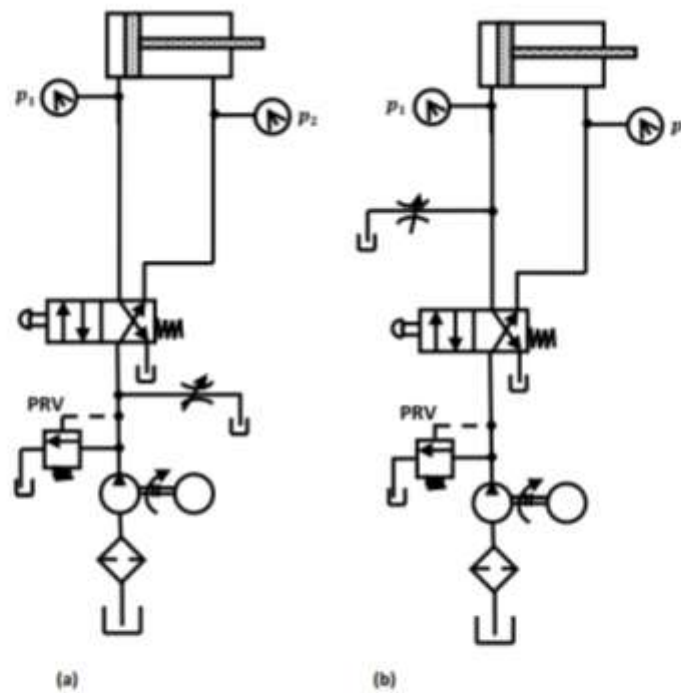

Figure 1.10 Bleed-off circuits:(a) Bleed-off for both directions and (b) bleed-off for inlet to the cylinder or motor.
Three-way valves either block or allow flow from an inlet to an outlet. They also allow the outlet to flow back to the tank when the pump is blocked, while a two-way valve does not. A three-way valve has three ports, namely, a pressure inlet (P), an outlet to the system(A) and a return to the tank(T). Figure 1.10 shows the operation of a 3/2-way valve normally closed. In its normal position, the valve is held in position by a spring as shown in Fig. 1.10(a). In the normal position, the pressure port P is blocked and outlet A is connected to the tank. In the actuated position shown in Fig. 1.10(b), the pressure port is connected to the tank and the tank port is blocked.
Figure 1.10 3/2-way DCV (normally closed). (a) Ports A and T are connected when force is not applied (valve unactuated). (b) Ports A and P are connected when force is applied (valve actuated).
Compared to meter-in and meter-out circuits, a bleed-off circuit is less commonly used. Figure 1.10 shows a bleed-off circuit with extend stroke control. In this type of flow control, an additional line is run through a flow-control valve back to the tank. To slow down the actuator, some of the flow is bleed off through the flow-control valve into the tank before it reaches the actuator. This reduces the flow into the actuator, thereby reducing the speed of the extend stroke. The main difference between a bleed-off circuit and a meter-in/meter-out circuit is that in a bleed-off circuit, opening the flow-control valve decreases the speed of the actuator, whereas in the case of a meter-in/meter-out circuit, it is the other way around.